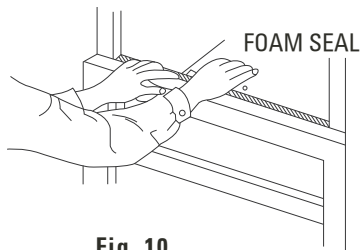

Fig. 10
D. Cut window sash seal foam and insert it in the space between the upper and lower sashes (Fig. 10).